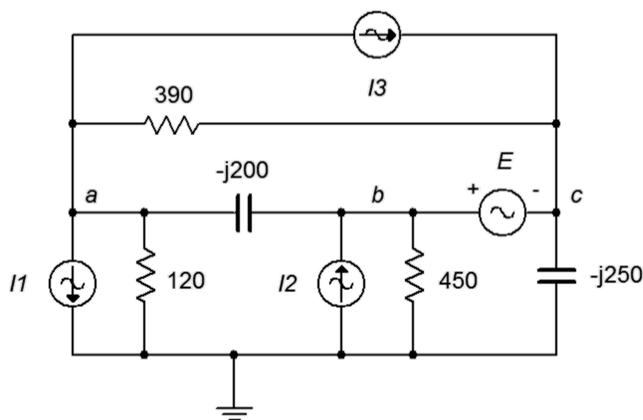

Figure 6.36
71. Given the circuit in Figure 6.36, determine  $v_{ad}$ .  $I1 = 0.8\angle 0^\circ$ ,  $I2 = 0.2\angle 180^\circ$ ,  $I3 = 0.1\angle 0^\circ$ ,  $E = 15\angle 0^\circ$ .